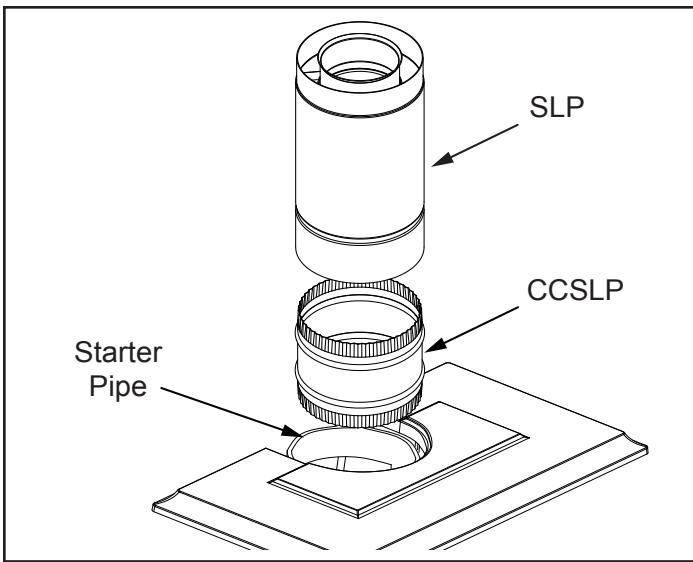

Figure 3.2 - Attach inner assembly to flue collar.
4. Place a 3/8" bead of millpack caulk around the 4" crimped end of the starter collar on the stove. Attach the SLP pipe to the adapter, and secure by aligning adapter and pipe seams, pressing down firmly until pipe stops, and twisting to lock into place, Figure 3.2.
3. Install the vent system as described in Figures 3.2 thru 3.9.